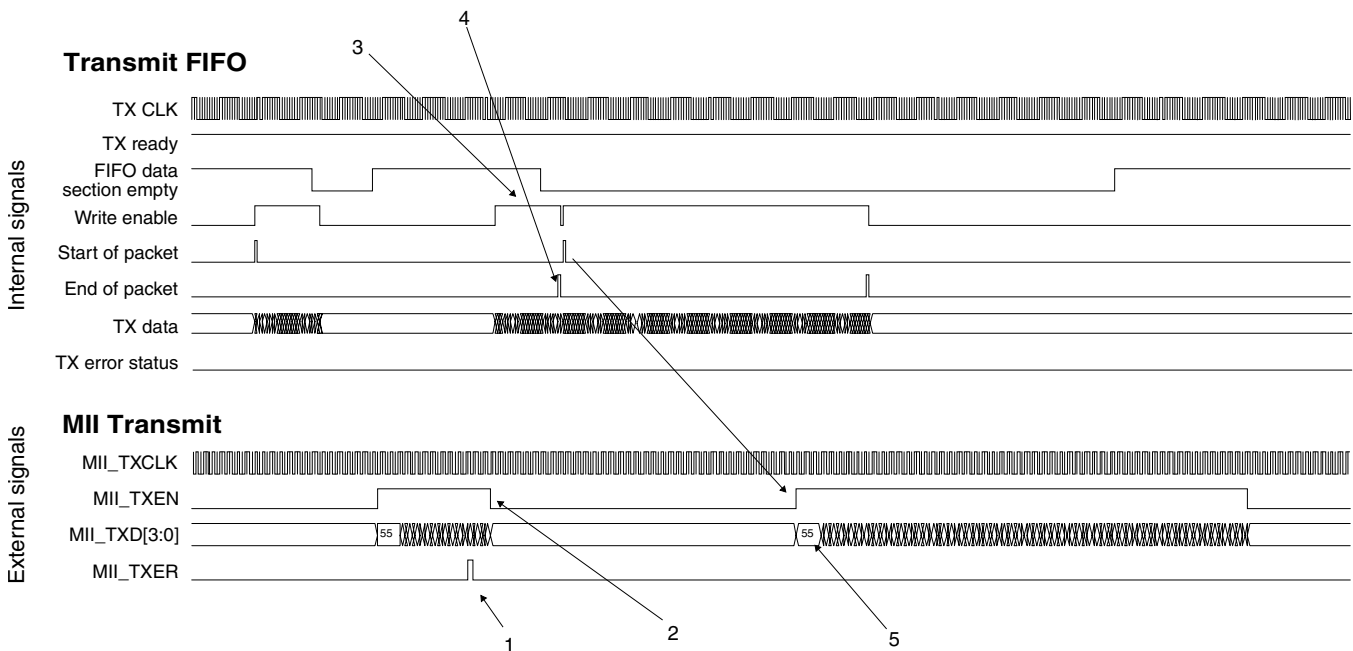

Figure 55-16. Transmit FIFO underflow protection
- Asserts the MII error signal (MII_TXER) (1 in Figure 55-16) to indicate that the fragment already transferred is not valid
- Deasserts the MII transmit enable signal (MII_TXEN) to terminate the frame transfer (2)